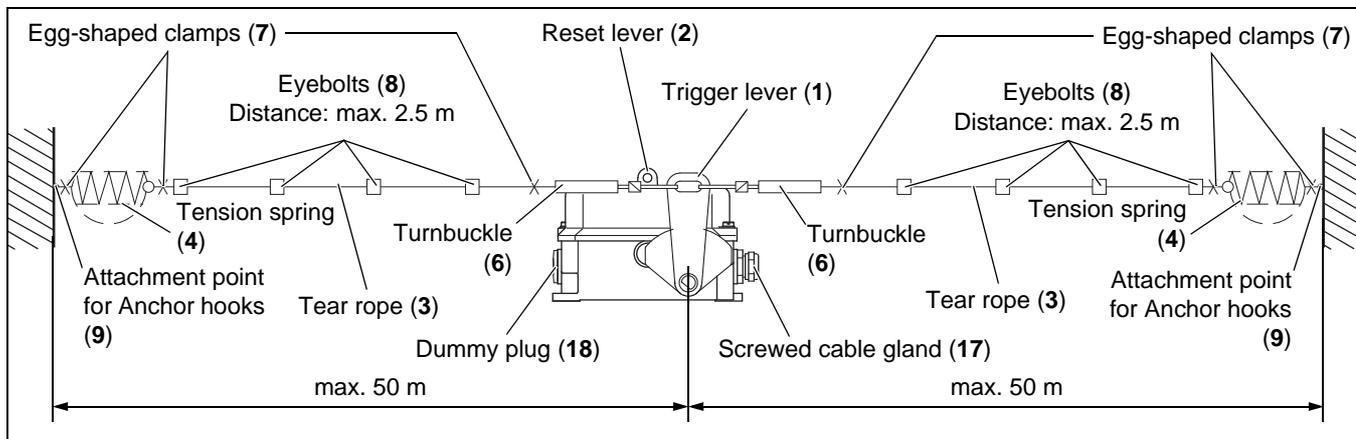

Fig. 5-2: Mounting on the conveyor structure
- The pull-rope emergency stop switch must be mounted in the middle between the attachment points of the Anchor hooks (9). Deviation of up to 3 % of the distance between the pull-rope emergency stop switch and the relevant attachment point is permitted.
- The distance between the attachment points of the Anchor hooks (9) may not exceed 100 m.
- The attachment points for the Anchor hooks (9) must be constructed from sturdy mechanical components.
- The distance between the Eyebolts (8) must not exceed 2.5 m (see *fig. 5-2*).
You will also require the following KIEPE accessories for further mounting of the pull-rope emergency stop switches on the conveyor structure (see figures 5-2 and Section 7.2: “Ordering replacement parts and accessories”, page 33):
3. Place the Anchor hooks (9) on the attachment points (*see fig. 5-2*).